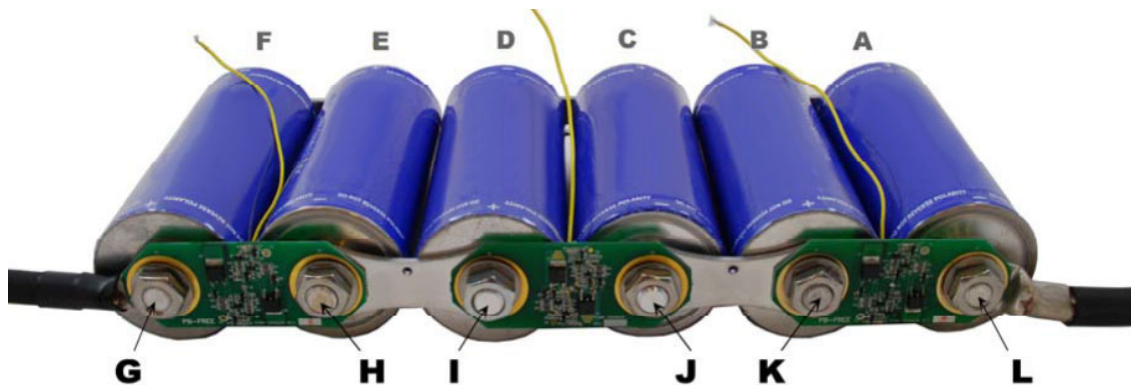
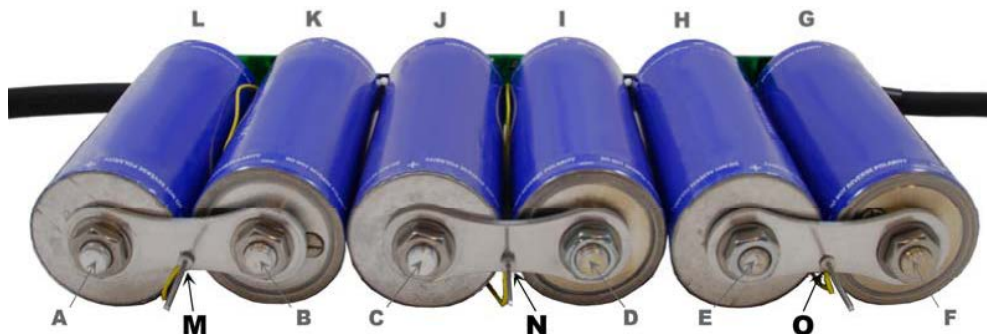

Figure 11
Figure 12
3.2.10 Thread a nut onto each threaded terminals and hand tighten. (G – L, Figure 11)
3.2.11 The 22 AWG wire attached to the voltage management board must be riveted in place with the provided rivet to the buss bar that spans **the same two cells as the printed circuit board** (M, N and O, Figure 12). Those two cells are protected by that one board. E.g.: the wire on the voltage management board spanning terminals K and L in Figure 11 is connected to the rivet on the buss bar spanning terminals A and B.